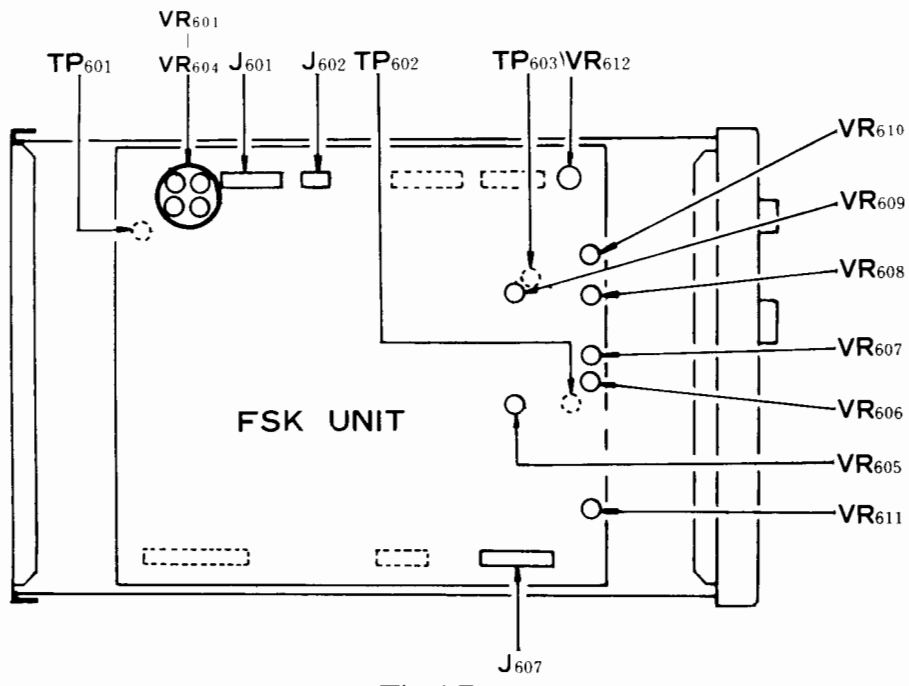
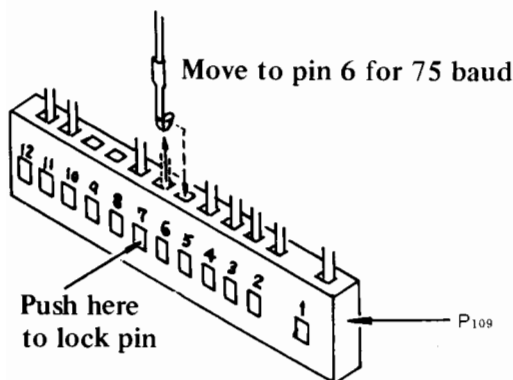

Fig. 15
Fig. 16
- (1) Remove the case of the YR-901.
- (2) Refer to Figure 15, and locate P₁₀₉, marked F. Remove P₁₀₉ from its jack.
- (3) Refer to Figure 16, and locate the 45.5 baud line (white/yellow, connected to pin 8). Also locate the 50 baud line (white/green, connected to pin 7). These may be moved to pin 9 for 57 baud and pin 6 for 75 baud operation, respectively. To remove the pins from the connector, poke a narrow object into the hole corresponding to the desired pin, in order to free the locking head of the pin.
- (4) Normally, no alignment will be required. If the baud rate is seriously out of alignment, though, the following procedure may be performed.
- (a) Locate VR₆₀₁–VR₆₀₄, marked G in Figure 15. Connect a frequency counter to TP₆₀₁, and set the TTY switch to 45. Adjust VR₆₀₁ for a reading of 728 Hz on the counter.